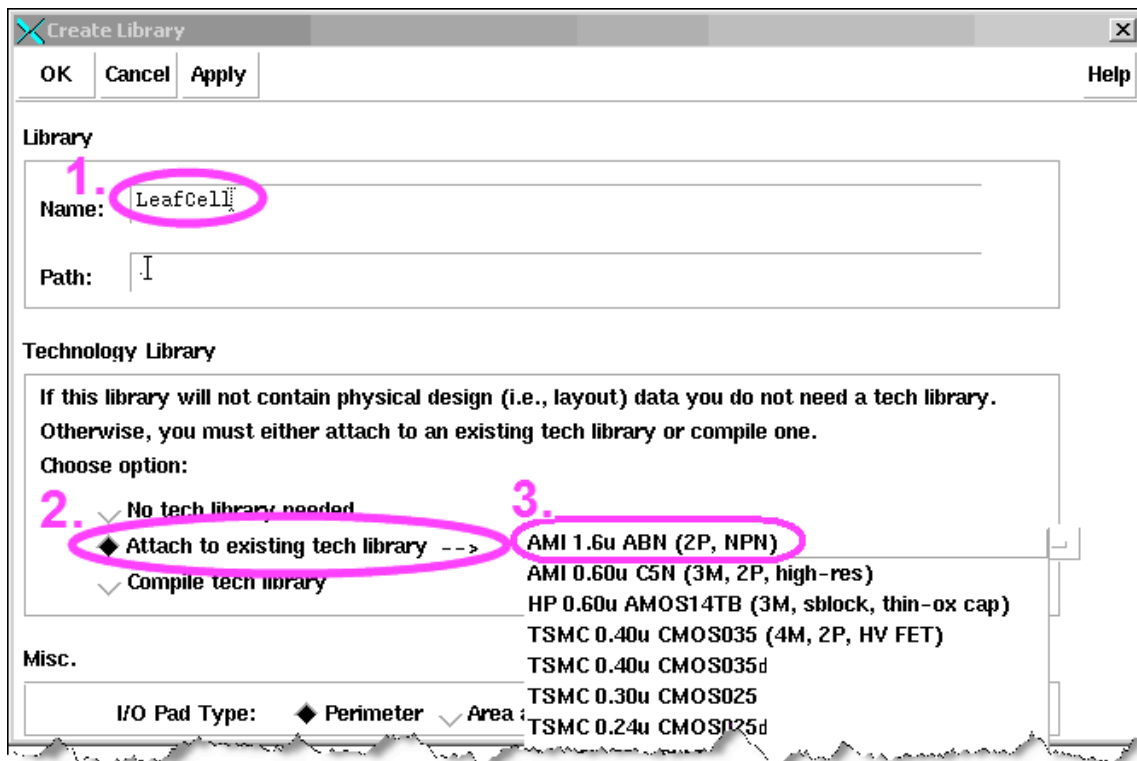

Figure 15: Creating a Library
2. Fill out the form exactly according to Figure 15. Make sure to click on *attach tech library*.